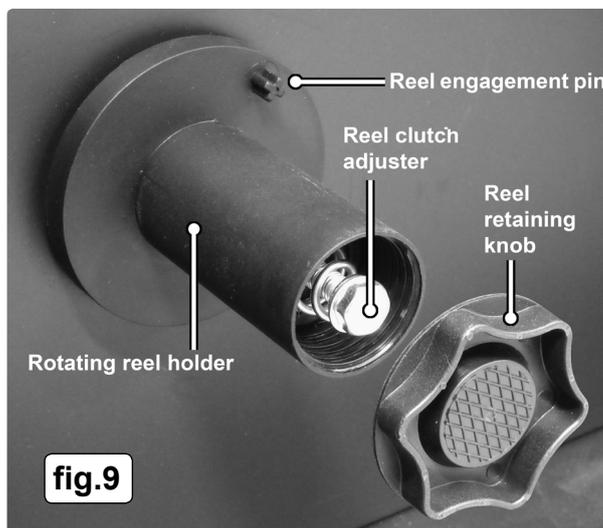

fig.9
5.6.1 Referring to fig.9, open the side of the wire feed compartment, and unscrew the reel retaining knob from the end of the rotating reel holder. Push the reel of wire onto the holder ensuring that the spool is rotating clockwise with the wire drawing off the top of the reel towards the flexible wire guide on the wire drive unit. The larger spools of wire have a 'moulded in' guide tube which must be located over the reel engagement pin on the rotating reel holder flange (See fig.9 below). The pin, in conjunction with the reel tension clutch adjuster will stop heavy reels of wire from free wheeling on the reel holder. See also 'setting wire tension' in section 6.4.
It is essential that the clutch is adjusted correctly. Once the wire is fed through the torch, switch on the machine and set the wire speed and voltage switch to maximum. Depress the torch switch and release quickly. If spool overruns it indicates that the clutch is too loose. Tighten the reel clutch adjuster (located in the centre of the reel holder (fig.9), and test the machine as above until the wire stops over running.